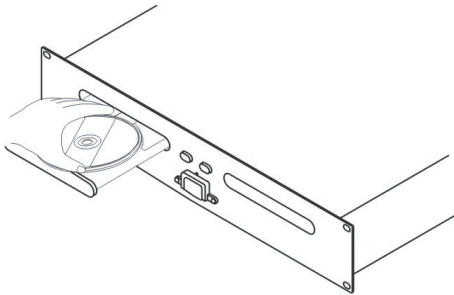
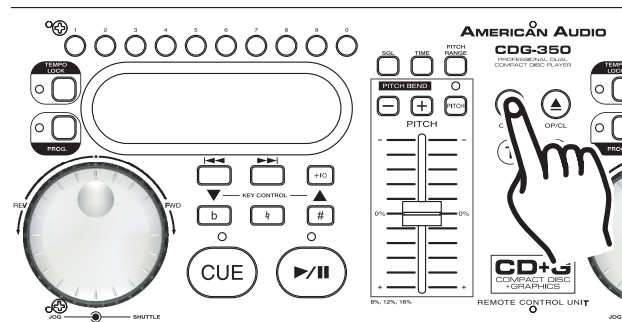

Figure 8
Figure 9
The CDG-350 can only play 3 and 5 inch CDs. Odd shaped, and oval CDs are not compatible. When loading a CD into the transport tray, always hold the disc by its edge (see Figure 8). Load the disc label side up and place it in the disc tray. Never touch the signal surface (the glossy side). To remove a disc from the tray press the *EJECT BUTTON* (7), see Figure 9.